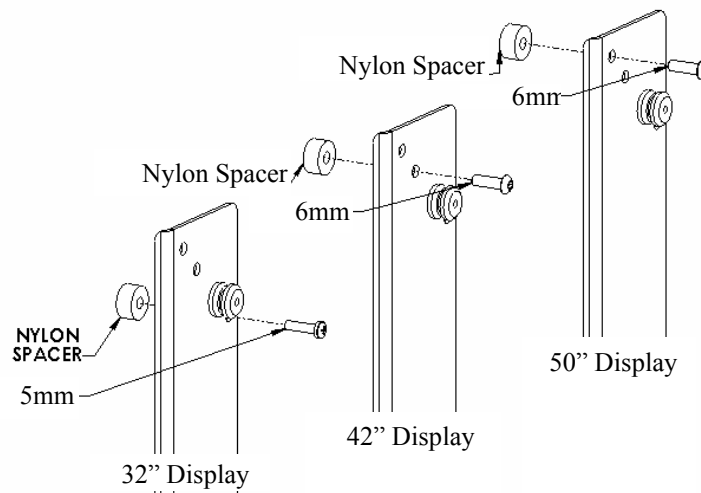

Figure 5. Bracket Hole Location
3. Place nylon spacers over the mounting holes on the back of the screen (see Figure 5).